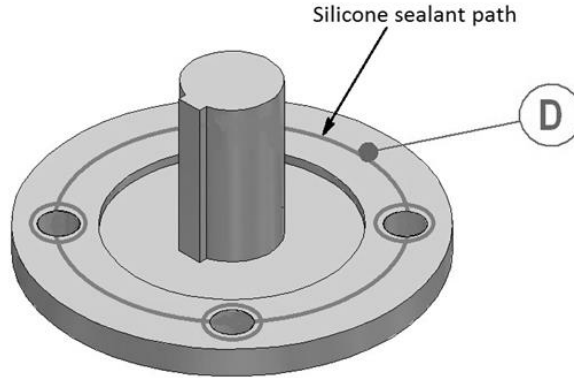

Figure 5 - Sealing of Valve Mounting Flange
- 3) It is recommended that flanges be sealed on assembly with silicon sealant. Apply a ring of silicone sealant around the mounting face of the flange, the ring should be at the same radius from the shaft as the bolt holes. Apply small rings of sealant around each of the bolt holes to completely seal the faces. The path marked 'D' in Figure 5 shows where sealant should be applied to the valve mounting flange. For acceptable sealants, see Table 4 on page 14.
If an actuator is to be used to operate the gearbox, then the mating faces between the gearbox input flange and the actuator output must be sealed prior to assembly using a ring of silicone sealant applied at the same radius as the bolt holes, a small ring of sealant should be applied around each bolt hole to completely seal the faces (see Figure 5). The actuator limit and torque switch settings should be set up following the actuator manufacturer's recommendations. The gearbox open & closed stop screws should then be set (see next section). For acceptable sealants, see Table 4 on page 14.